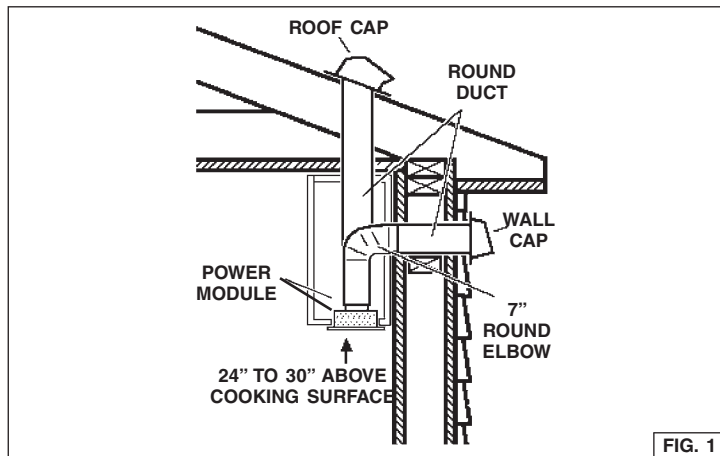

FIG. 1
1. Decide where the ductwork will run between the hood and the outside (Refer to Figure 1).